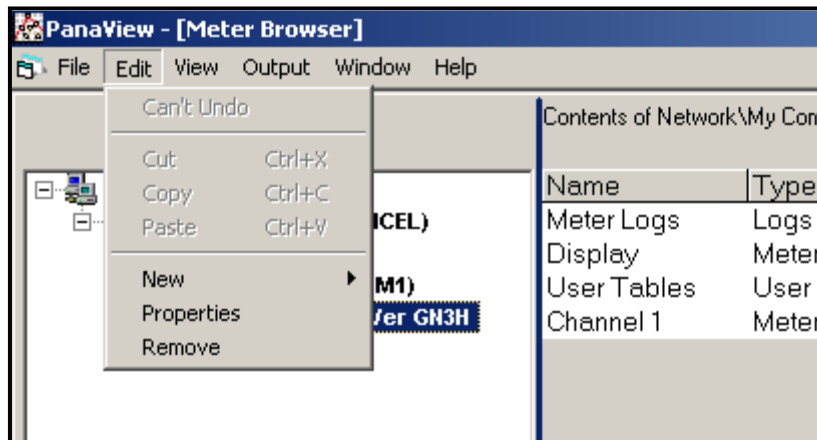

Figure 24: The *Properties* Option in the *Edit* Menu
2. Open the “*Edit*” menu and select the “*Properties*” option, as shown in Figure 24 below.